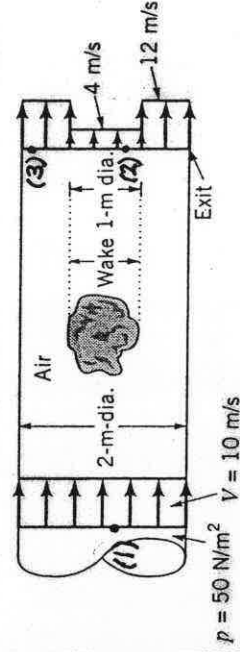

FIGURE P5.67
5.67 Air flows past an object in a 2-m-diameter pipe and exits as a free jet as shown in Fig. P5.67. The velocity and pressure upstream are uniform at 10 m/s and 50 N/m2, respectively. At the pipe exit the velocity is nonuniform as indicated. The shear stress along the pipe wall is negligible. (a) Determine the head loss associated with a particle as it flows from the uniform velocity upstream of the object to a location in the wake at the exit plane of the pipe. (b) Determine the force that the air puts on the object.